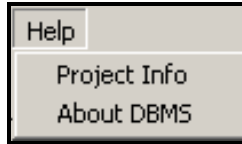

Figure 57. Help Menu
As shown in Figure 57, the **Help** menu contains two (2) choices. Each item is discussed below.